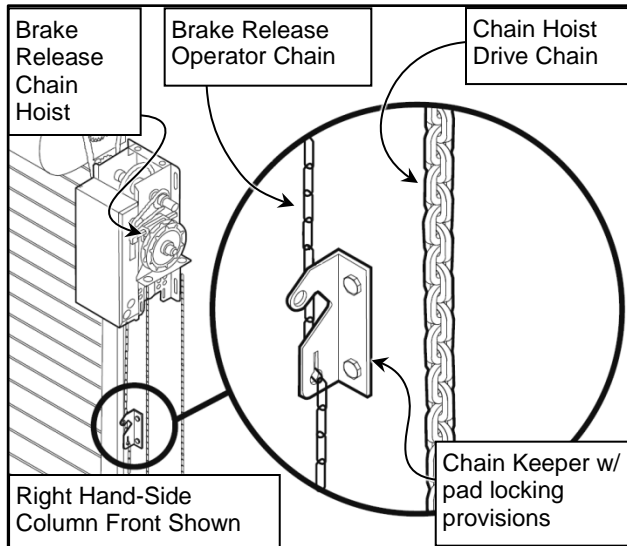

Figure 92
2. Pull the Brake Release Operator Chain on the control-motor assembly to disengage the electric motor and engage the chain hoist. The disconnect chain may be locked in position by slipping the end through the keyhole of the chain keeper mounted on the wall. (See Figure 92)
3. With the electric motor brake system disengaged and the chain hoist engaged, pull the chain in the direction required to either raise or lower the door panel. (See Figure 92)
4. The brake release operator chain must be released from the chain keeper and/or the chain simply allowed to rise back up to re-engage the motor/disengage the chain hoist before the door will operate again electrically. (See Figure 92)